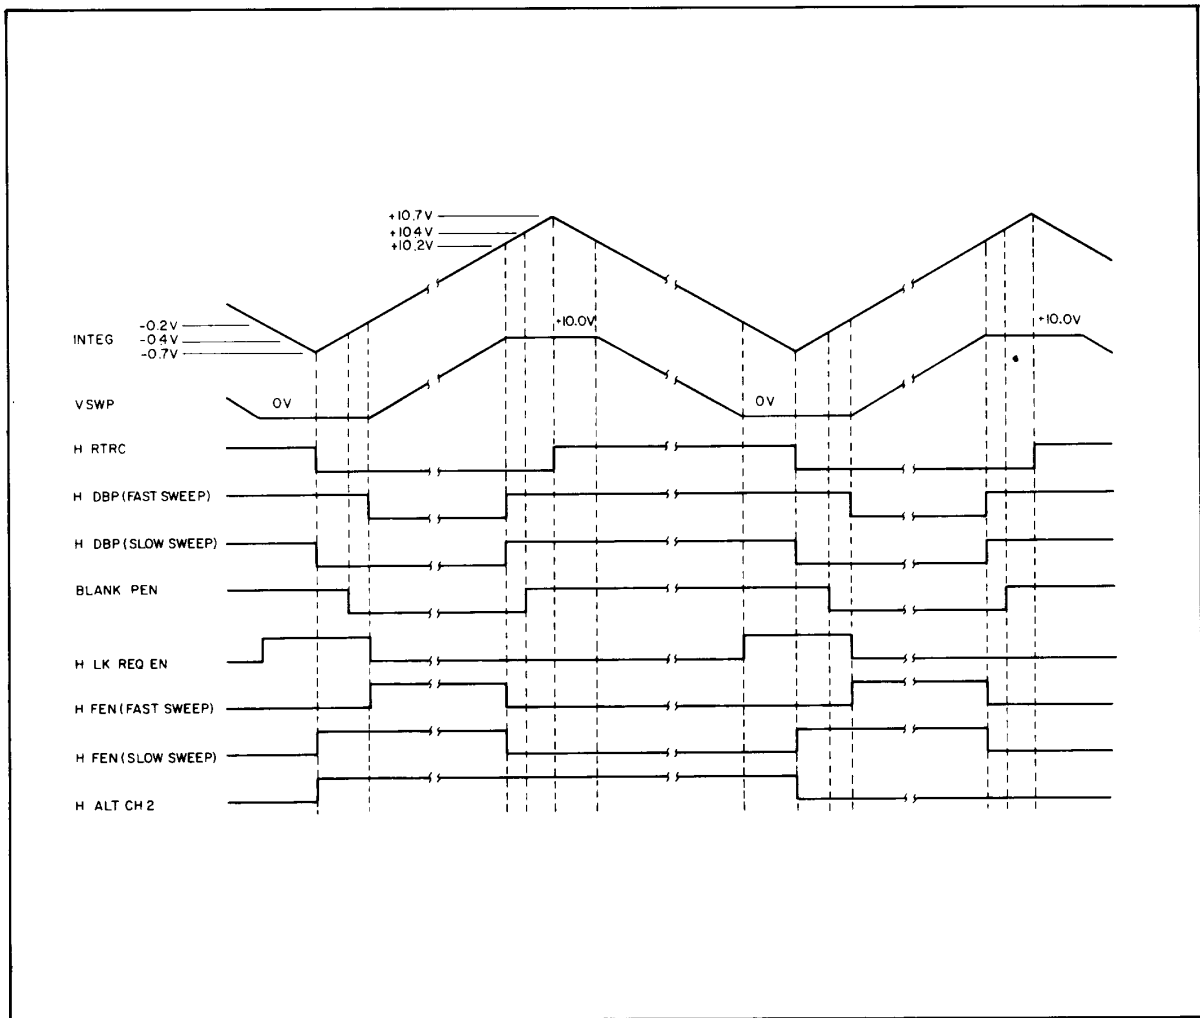
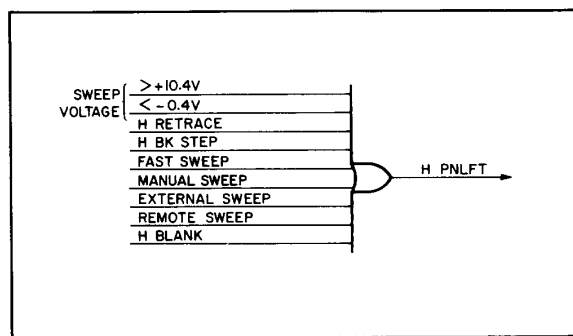

Figure 8-9. Sweep Generator Timing Diagram
Figure 8-13. Pen Lift Logic
pressed, both inputs to U6D are high and the output is low. U5A pin 2 is low, the output is high, and U5B pin 3 in the Sawtooth Generator is high. At the same time, in the Sweep Control Logic circuit, the L REM BUF and L EXT SWP lines are high, placing a high at the output of U9A, while the L MAN SWP is also high, placing a high at the output of U9B and at U5B pin 5 in the Sawtooth Generator. When the sweep voltage goes more negative than  $-0.7V$ , the output of comparator U3A goes high. At this point, all three inputs to U5B are high, the output goes low, and the Trace-Retrace flip-flop U4B is reset (pin 13) to initiate a trace. The trace is in progress when the RTRC signal is low, as shown in Figure 8-9, the Sweep Generator timing diagram.
respect to time. The waveform, which may be monitored at TP5, consists of a positive-going ramp for sweep trace and a negative-going ramp for sweep retrace (see Figure 8-9). The trace portion of the sawtooth increases from  $-0.7V$  to  $+10.7V$  at a rate determined by the front-panel SWEEP vernier and the selection of FAST or SLOW sweep. The retrace portion decreases from  $+10.7V$  to  $-0.7V$  at a fixed rate determined only by the selection of FAST or SLOW sweep. Comparators monitor the sawtooth signal and provide timing pulses for blanking and control signals that are used throughout the instrument.
H LK REQ EN sets the Phase Lock Control (A14, Service Sheet 11) for the start of a trace. When the retrace slope of the sawtooth voltage goes more negative than -0.2V (see Figure 8-9), the output of the comparator U3B goes low and U8D pin 11, the H LK REQ EN line, goes high. If L SWP INH (sweep inhibit) from the Sweep Control Logic circuit drives U8D pin 12 low, the H LK REQ EN line goes high.
The H FEN line is high when all inputs to NAND gate U10B are high; that is, when a retrace is not in progress and the trace slope of the sawtooth voltage is less negative than -0.2V but less positive than +10.2V. The H FEN line goes low if these conditions are not met or if one of the following signals is received from the Sweep Control Logic circuit: L MAN, L EXT SWP, or L REM BUF. Figure 8-9 shows the timing of the H FEN signal for both FAST and SLOW sweeps.
The active low output of Channel Select flip-flop U4A (pin 6) is fed back to pin 2, the data input, and the flip-flop is clocked by Retrace pulses from Trace/Retrace flip-flop U4B in the Sawtooth Generator. The H ALT CH 2 line changes states each time a clock pulse is received, causing the sweep to be displayed alternately on Channel 1 and Channel 2 (see Figure 8-9). An L MAN, L EXT SWP, or L REM BUF signal from the Sweep Control Logic circuit clears U4A, and the H ALT CH 2 line is pulled low.
**Penlift.** (See the timing diagram, Figure 8-9.) The H PNLFT line to the Penlift Driver circuit is high under one or more of the following conditions, which are illustrated in Figure 8-13: